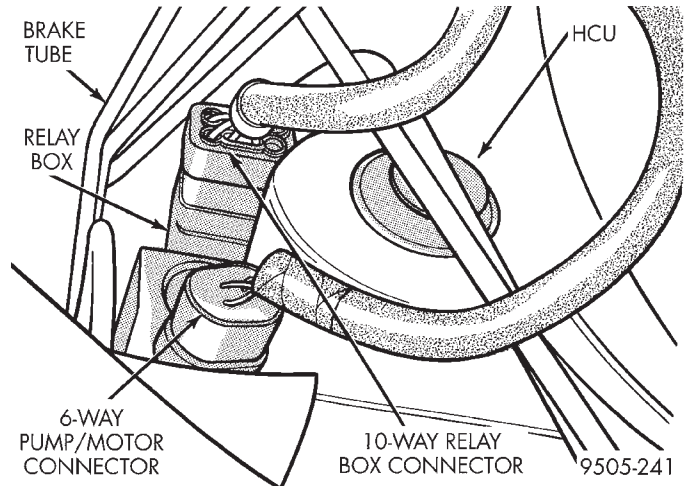

Fig. 17 Electrical Connections At HCU And Relay Box
(9) Disconnect the 6 way connector from the HCU wiring harness and the 10 way connector from the relay box located on the HCU (Fig. 17).
(7) Install the 6 way connector on the HCU wiring harness and the 10 way connector on the relay box of the HCU (Fig. 17).